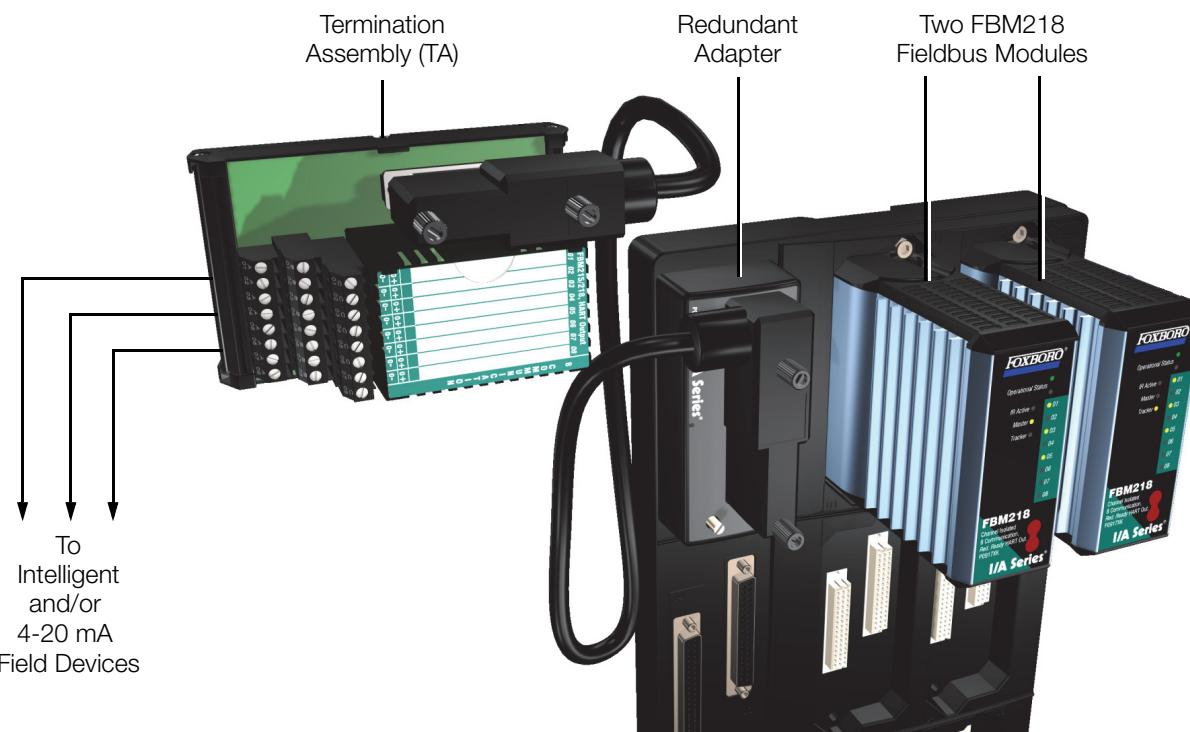

Figure 1. Redundant Module Configuration
A pair of the modules combines to provide redundancy at the Fieldbus Module level, with field outputs wired to one termination assembly (see Figure 1). In this configuration, one FBM218 is the Master, and the other is the Tracker.
Redundant modules must be located in adjacent positions on the baseplate (positions 1 and 2, 3 and 4, 5 and 6, or 7 and 8). To achieve redundancy, a redundant adapter module is placed on the two adjacent baseplate termination cable connectors to provide a single termination cable connection (see Figure 1). A single termination cable connects from the redundant adapter to the associated termination assembly (TA).